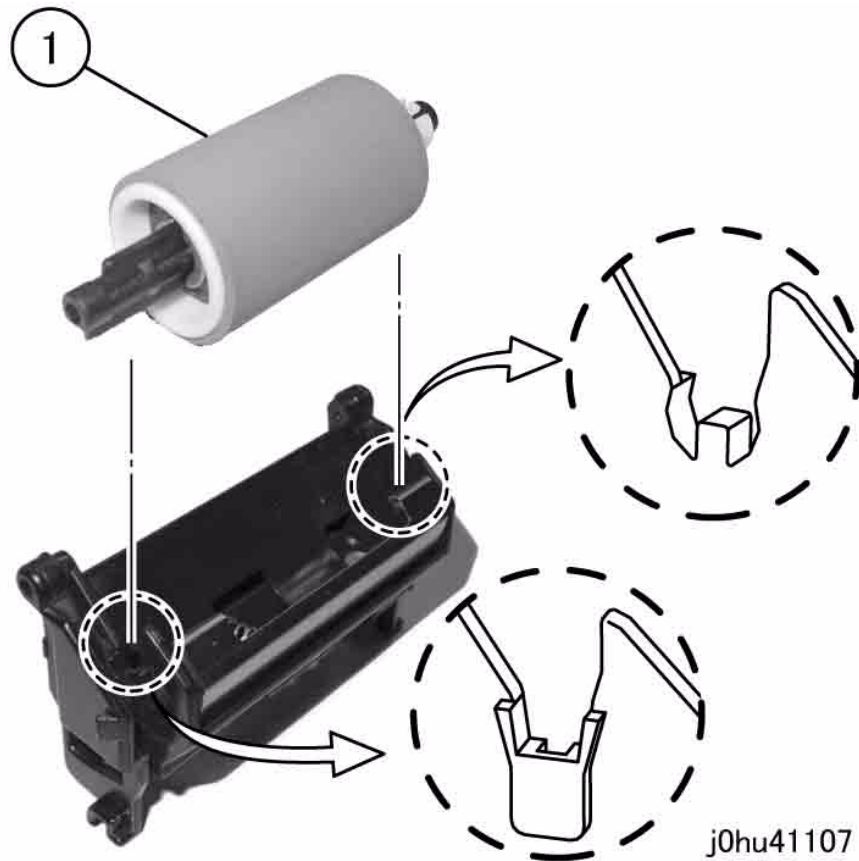

Figure 3 Remove Tray 2 Retard shaft and Roll
4. Remove the Tray 2 Retard Shaft and Roll (Figure 3).